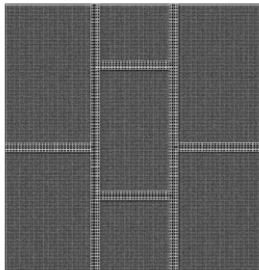

figure 1
- Lay the insulation boards, we recommend a brick pattern layout (see figure 1). To cut the boards simply run a knife through to score and flex. We recommend using a flexible powder